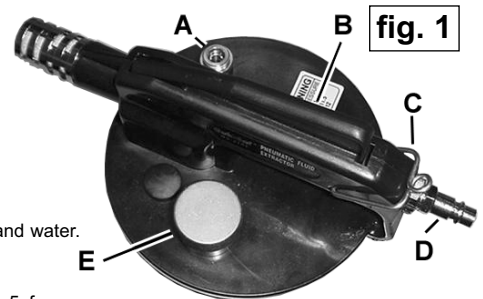

fig. 1
- 3.1. Ensure that the air valve (fig.1.B) is in the "off" position before connecting to the air supply.
- 4.1. Check that the cap (fig.1.E) is fully pushed on and that the air supply is turned off.
- 4.2. Choose the appropriate suction tube for the type of extraction, and couple it to the canister connector (fig.1.A).
- 4.4. Connect the air line to the extractor quick connect (fig.1.C), turn on the air supply and squeeze the trigger (fig.1.B) to start extraction. Note that the trigger may be held down by the trigger clip (fig.1.C).
- 4.5. When extraction is complete, release the trigger, turn off the air supply and remove the tube from the fluid container. Empty the tank by removing the cap (fig.1.E).